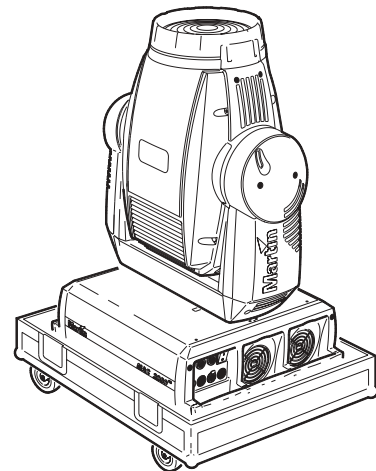

Figure 2: Single
- 2 Lock the head and yoke in the position shown in Figure 2.